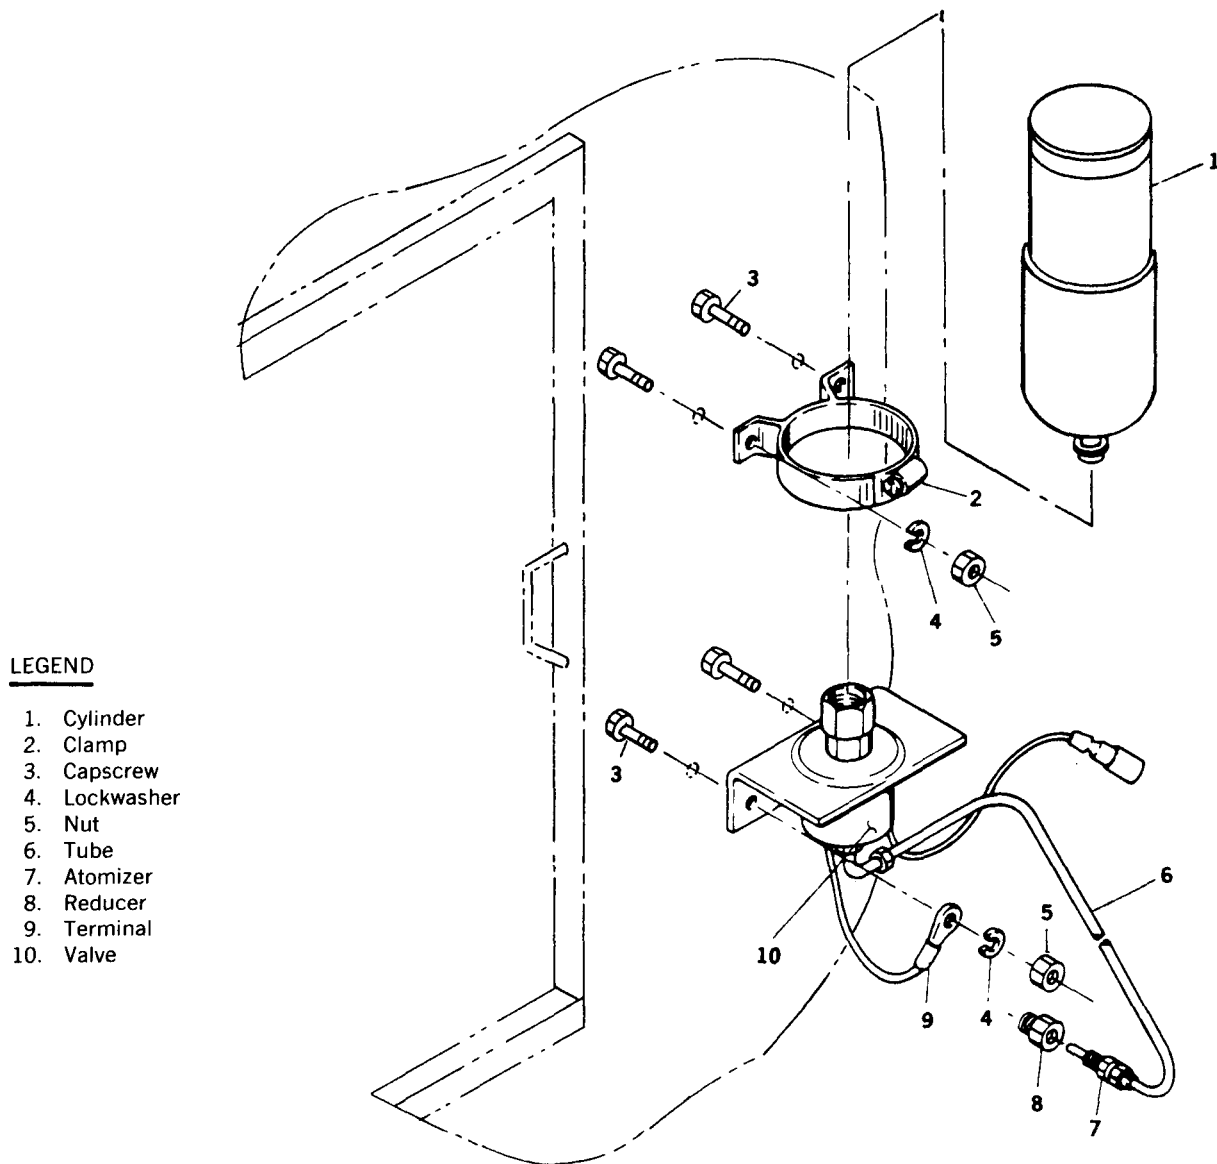

Figure 3-45. Cold Starting Aid
- a. Remove tube (6) and reducer (8, figure 3-45) at air intake manifold on engine. Remove atomizer (7).
- b. Disconnect terminals at valve (10). Remove nuts (5), lockwashers (4), capscrews (3), terminal (9), and valve (10) with cylinder (1).
- c. Loosen clamps (2) and remove cylinder (1).
- a. Assemble valve (10, figure 3-45), cylinder (1), and clamps (2).
- b. Install valve (10) with cylinder to engine hood (inside) with capscrews (3), lockwashers (4), and nuts (5).
- c. Install atomizer (7) and reducer (8) at air intake manifold on engine.
- d. Connect lead at valve (10).